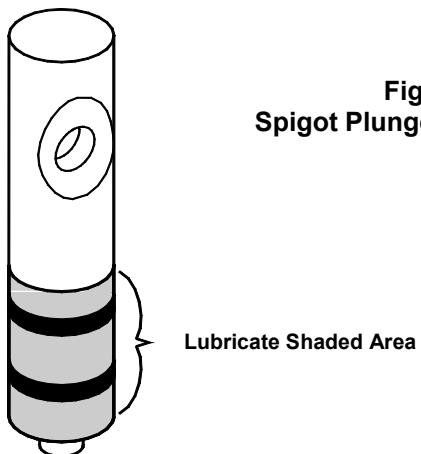

Fig. 24
- Install the two o-rings on the spigot plunger by rolling them onto the plunger. Seat the o-rings in the grooves. Be certain that they are not twisted. Smooth the lubricant into the grooves and over the sides of the plunger assembly (Fig. 24).